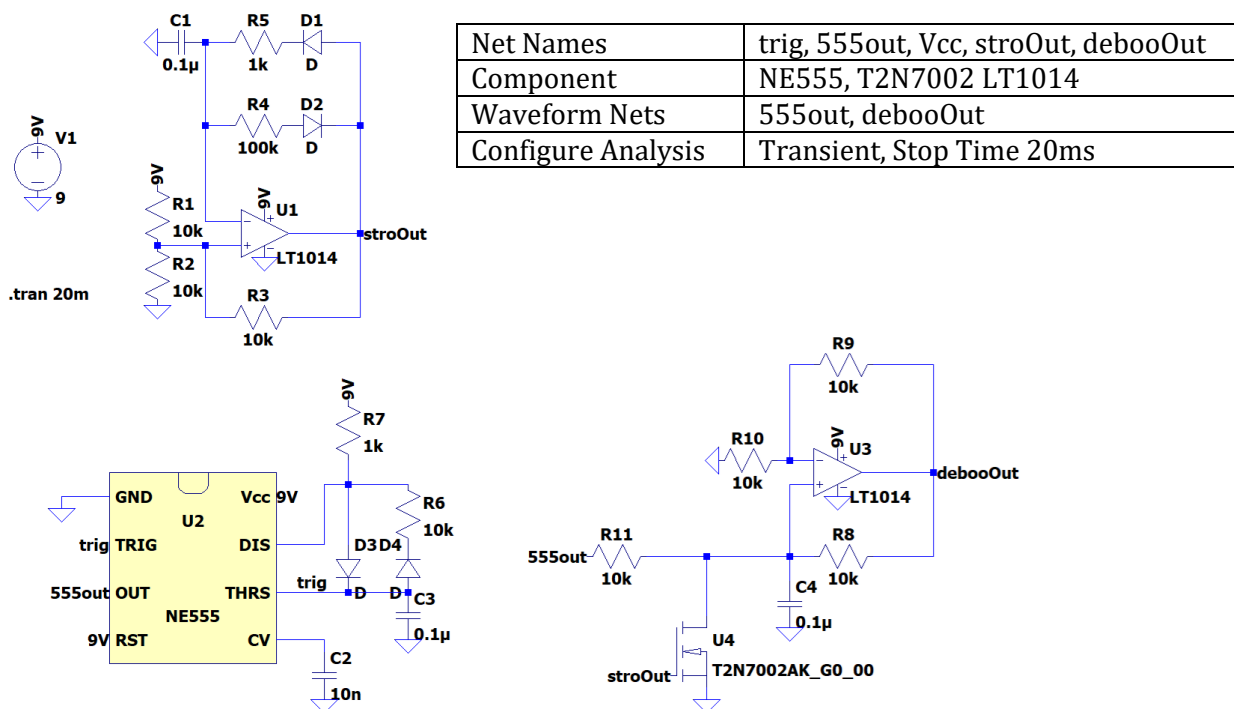

Figure 1: The deboo integrator uses signals from the previous two labs to build a staircase looking waveform.
In this third lab of the BJT Curve Tracer, shown in Figure 1, you will explore the Deboo Integrator, a circuit that takes the integral of its input.
A cursory glance at Figure 1 reveals that the 555 Timer and the Schmitt Trigger Relaxation Oscillator are the input to the Deboo Integrator circuit. The analysis of the Deboo Integrator will be easier if you fill in the information into Table 1. We will come back to this table through the lab.
The Deboo Integrator in the BJT Curve Tracer in Figure 1 gets its input from the 555 Timer output pulses (555PULSE in Figure 1). The next set of questions seeks to understand how the Deboo Integrator output will look like when it receives these pulses.
1. Using the values of resistance and capacitance in Figure 1, compute the weighting factor $2/RC$ for the Deboo Integrator output. Note, I created the PCB with a parallel combination of 0.1uF capacitors C5 and C7. I did this when I designed the PCB in case the capacitance value needed to be increased above 0.1uF. After a lot of testing, a single 0.1uF works just fine. **So only populate one of C5/C7 positions with a single 0.1uF capacitor!**
You would be right in concluding the staircase function will only increase as more-and-more 555 timer pulses are applied to its input. To prevent this, we will need a way to periodically remove the charge from the capacitor. We will accomplish this using the stroOut signal from the Schmitt Trigger Relaxation Oscillator and the 2N2007 MOSFET shown in Figure 1.
Before diving into the interactions between these modules, let's take a moment to understand the behavior and purpose of the 2N7002 MOSFET shown in Figure 1. A MOSFET is a 3-terminals device whose terminals are called the drain (D), gate (G), and source (S). The left side of Figure 4 shows the schematic symbol of a MOSFET with these terminals labeled.
Figure 4: (Left) The schematic symbol for the 2N7002 MOSFET with its terminals labeled. (Right) The switch interpretation of the 2N7002 MOSFET in the Deboo Integrator circuit of Figure 1.
Take a moment and look for the Q1 MOSFET in Figure 1.
Use LTspice to build and simulate the Schmitt Trigger relaxation oscillator circuit shown in Figure 1. After you set up the simulation, use the cursors to measure the simulation values asked for in the Simulation columns in Table 2. Make sure to save a copy of your schematic and timing windows for your lab report.